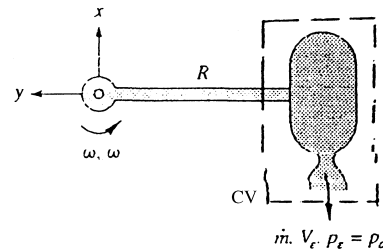

Fig. P3.104
3.104 A rocket is attached to a rigid horizontal rod hinged at the origin as in Fig. P3.104. Its initial mass is M_o , and its exit properties are \dot{m} and V_e relative to the rocket. Set up the differential equation for rocket motion, and solve for the angular velocity $\omega(t)$ of the rod. Neglect gravity, air drag, and the rod mass.